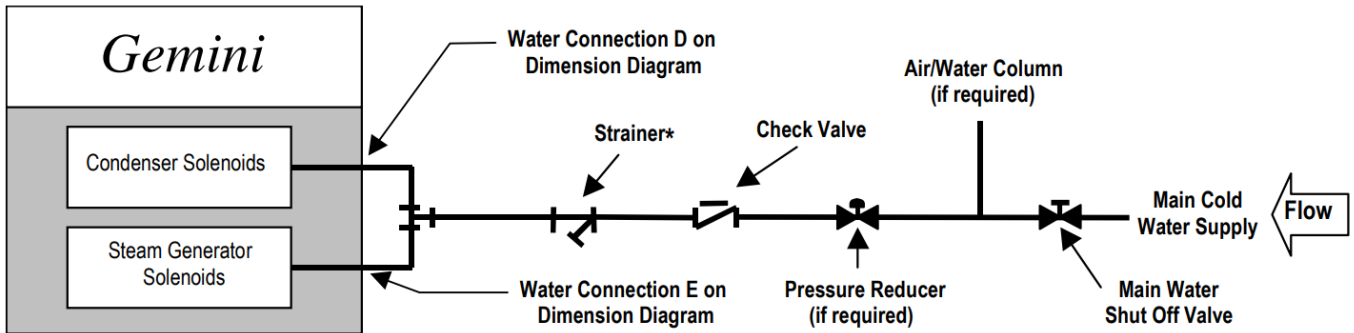
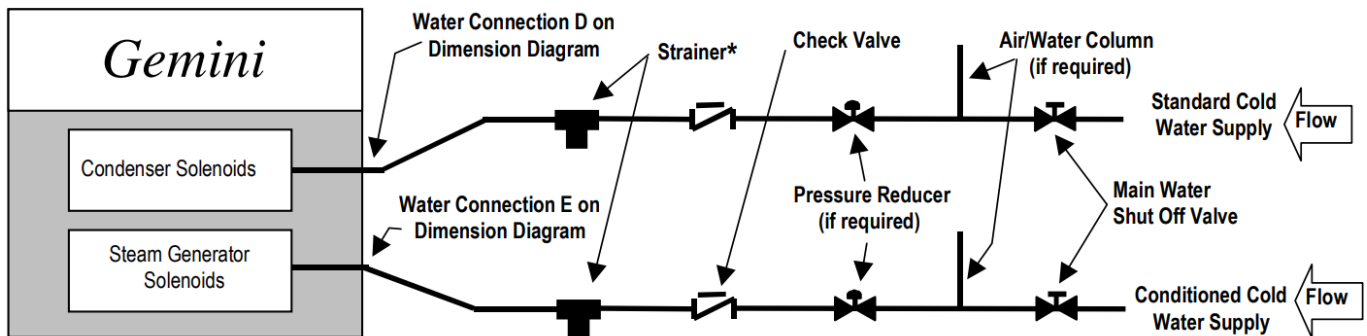

Figure 3-9 Cleveland Range Single Water Supply Arrangement
Figure 3-10 Cleveland Range Single Water Supply Arrangement when Using Separate Conditioned Feed Water Supply
- c) The Gemini Steamers are supplied with two connection points for incoming water, one feeds the condensers and the second supplies feed water to the generators. If the local water supply is of poor quality, it is recommended that treated or otherwise filtered or conditioned water be used to supply the feed water to the generators. In the case of using a separate water supply, use the layout shown in Figure 3-10.
- i. Cleveland Range recommends the plumbing layout illustrated in either Figure 3-9, for installations using a single water supply or Figure 3-10 if a separate conditioned water supply is being used for boiler feed. Note: If using a single water feed to the system the supply piping to the tee fitting should be of at least the next largest size of pipe to the connection provided at the steamer.